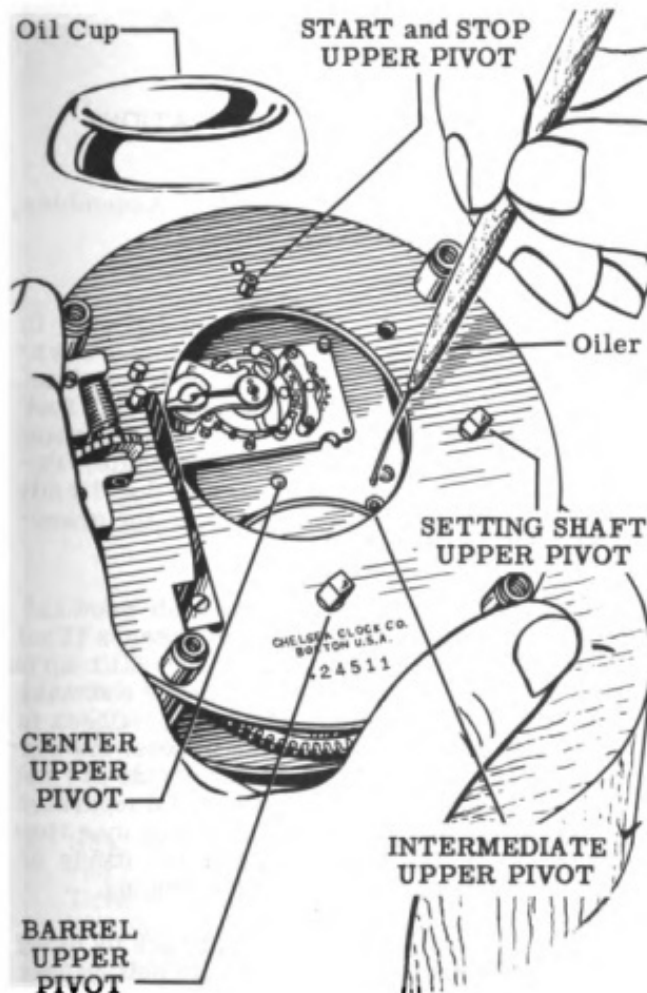

Figure 81
20. Oil the upper pivots of the start and stop shaft, the barrel arbor, the setting shaft, the center wheel and the intermediate wheel. These points are shown in Fig. 81. See "Timepiece Lubrication" as listed in the index of the Control Manual.